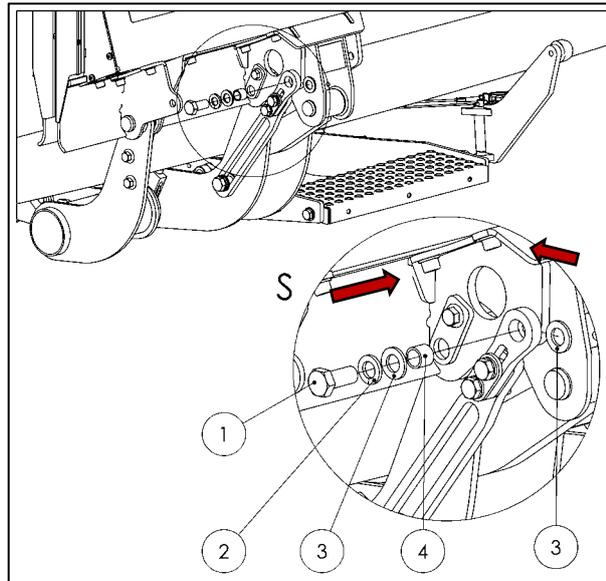

Figure 60
- Mount the screw (1) for the platform lock, including the spring washer (2), washers (3), and sleeve (4), on the platform bearing (see Fig. 60).